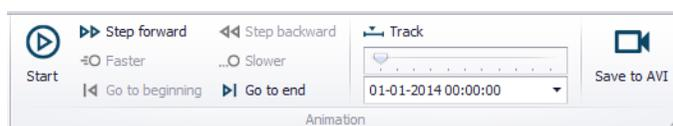

Figure 19.70 Animate dynamic results using tools from the Animation toolbox on the Results ribbon
- Activate the 'Start' function to play the animation. The various options for playing the animation is shown in Figure 19.70.